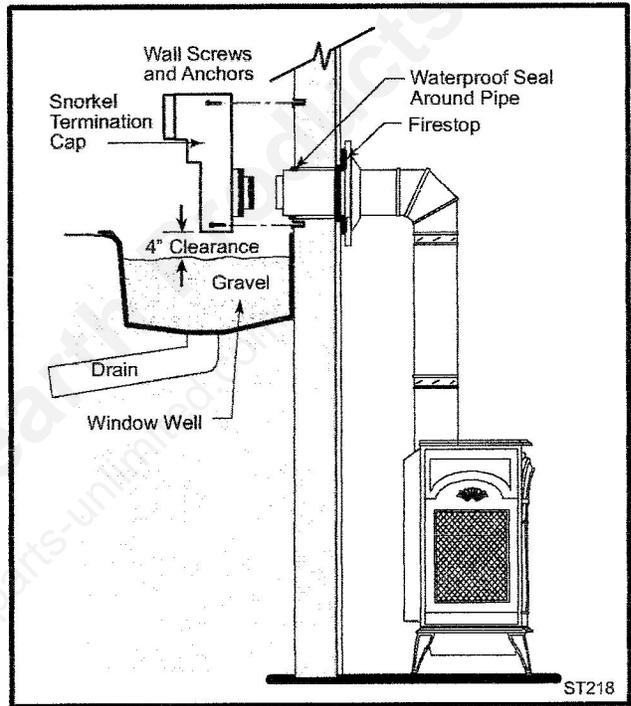

Fig. 35 Snorkel kit installation.
Install Snorkel Kit #7FSDVSKS when it is not possible to meet the required vent termination clearances of 12" (305mm) above grade level. The snorkel kit will allow installation depth of down to 7" (178mm) below grade level. The seven inches is measured from the center of the horizontal vent pipe as it penetrates the wall. **If the venting system is installed below grade, a window well must be installed with adequate and proper drainage.** (Fig. 35)
2. Remove soil to a depth of approximately 16" (400mm) below the base of the snorkel. Install a window well (not supplied). Refill the hole with 12" (305mm) of coarse gravel and maintain a clearance of at least 4" (100mm) below the snorkel. (Fig. 35)